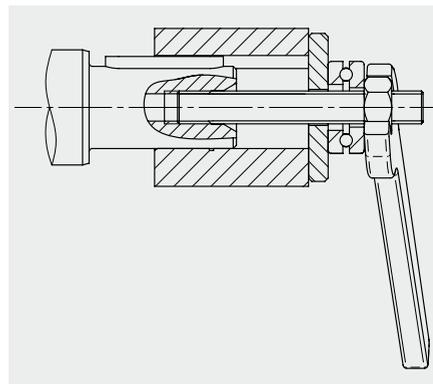

Figure 5: Installation of gear hubs
- Pre-heat couplings, belt pulleys, chain sprockets, etc. to max. 100 °C for installation, or use a suitable separating paste or grease and a puller (Figure 5).